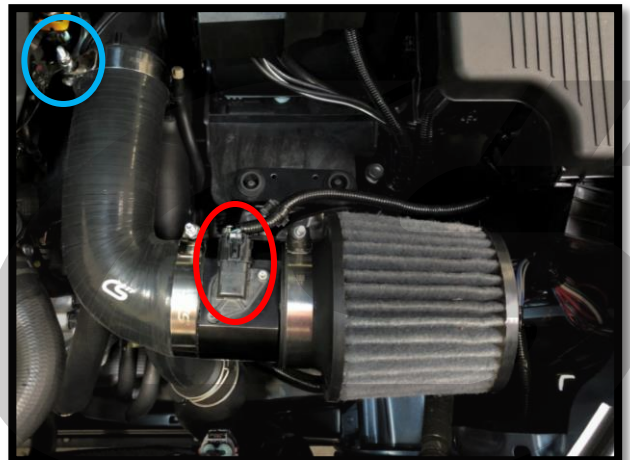

Figure 5a
- a) Unplug the MAF Sensor by squeezing the top of the wiring connector and pulling toward the rear of the vehicle. Shown in **circled in red** in **Figure 5a**.
- b) Loosen the 70-78mm clamp installed in step 4f using a 10mm socket and ratchet. This clamp is **circled in blue** in **Figure 5a**.